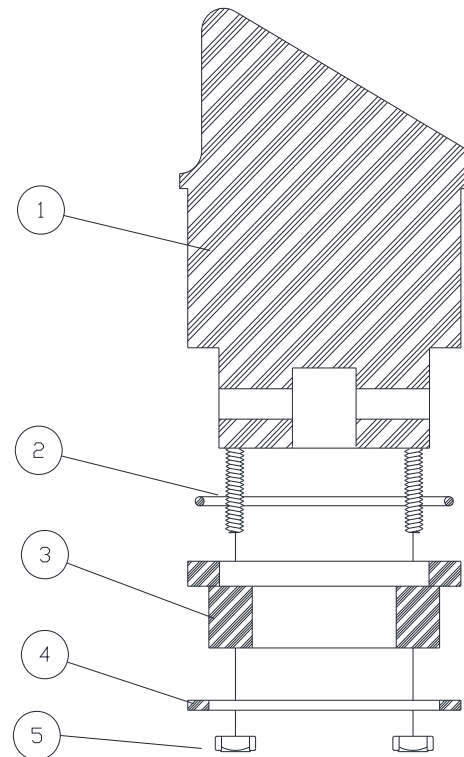
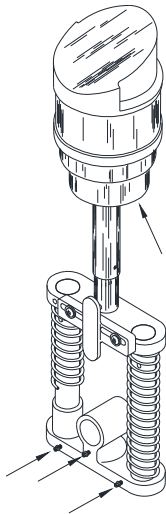

FIGURE 4
FIGURE 2
TO DISMANTLE PISTON IN FIGURE 4, REMOVE THE SIX NYLOCK HEX NUTS (5), SLIDE SLIP RING (4) DOWN AND OFF, THEN WITH SLIGHT PRESSURE, PUSH PISTON RING (3) OFF PISTON AND REMOVE RUBBER "O" RING (2). WHEN REASSEMBLING THE PISTON, A VERY IMPORTANT STEP IS TO MAKE SURE THE SIX NUTS (6) ARE NOT OVERLY TIGHTENED, MERELY SNUG. AS THE RING WEARS OVER A PERIOD OF TIME, CONTINUE TO SNUG UP THE SIX NUTS. THIS PROCEDURE WILL NOT ONLY PROVIDE LONG LIFE TO THE PISTON RING BUT WILL MAINTAIN FULL VACUUM. **FINAL ADJUSTMENT OF PISTON SHOULD BE MADE ONCE PISTON IS SECURE INSIDE THE CYLINDER!!**
THE PISTON AND SPRING LOAD ASSEMBLY HAVE A TOTAL OF (4) GREASE FITTINGS, (FIG. 2). THREE (3) OF THESE FITTINGS ARE FOUND ON THE LOWER CASTING OF THE SPRING LOAD. APPLY A SMALL AMOUNT OF GREASE TO THESE FITTINGS ONCE A WEEK. THE SAME PROCEDURE SHOULD BE FOLLOWED FOR THE GREASE FITTING UNDER THE PISTON, (FIG. 4). THIS FITTING IS LOCATED ON THE TOP OF THE OUTSIDE CONNECTING ROD, (PART NO. 322PY).